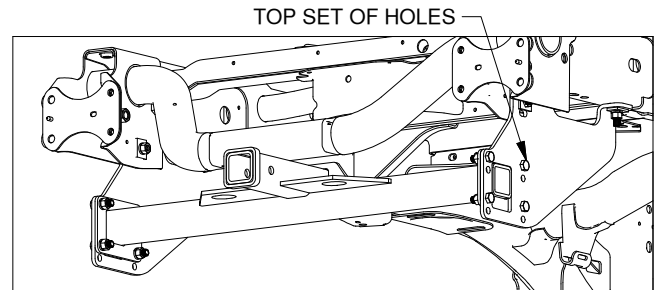

Figure A2: View of truck without factory receiver hitch. (Bumper not shown)
- For pickups without a factory receiver hitch or with the factory receiver tube cut off of the round frame/bumper support, the center section should be bolted to the side plates in the top set of holes and oriented so the receiver tube is on top of the cross tube, see Figure A2.